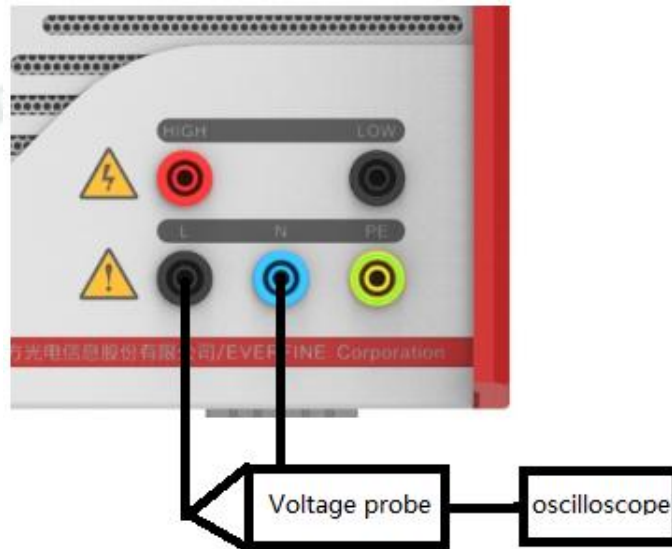

Fig 6.3 CWG module power coupling open circuit voltage test wiring diagram
(2) Test steps:
- ① According to Fig 6.3, set "module selection" as CWG, "trigger mode" as follows: automatic, "pulse interval/times" as 10 times, "polarity" as positive, "phase" as asynchronous, "coupling path" as power line coupling (L1->N).
- ② Select the four test points of "voltage" - "set value" for 0.5kV, 2.0kV, 4kV and 7kV.
- ③ Press the run button at each test point. The open circuit voltage peak, wave front time and half peak time should be read out from the oscilloscope, and the allowable error should meet the requirements of relevant technical indexes in Chapter 2.
- ④ According to the inspection record, change the coupling mode in the built-in CDN, connect the high-pressure probe to the corresponding terminal according to the coupling mode, and then carry out ①、②、③step.